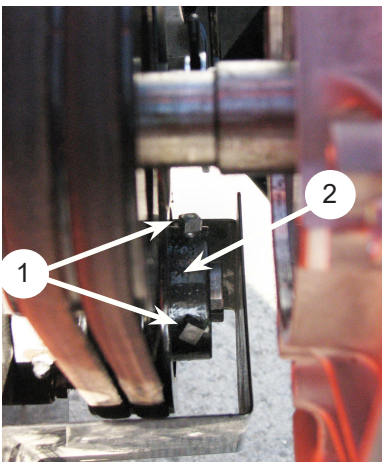

Figure 5.7.1, Rotor Shaft Belt Pulley
6. Loosen the set screws holding the belt pulley on the rotor shaft (Figure 5.7.1). Move the pulley on the shaft so it is aligned with the engine drive pulley. The pulley should be moved the same amount the rotor was moved, only in the opposite direction. Torque pulley set screw to 160 in-lbs.
6. Loosen the set screws holding the belt pulley on the rotor shaft and remove the pulley. See Figure 5.7.1.